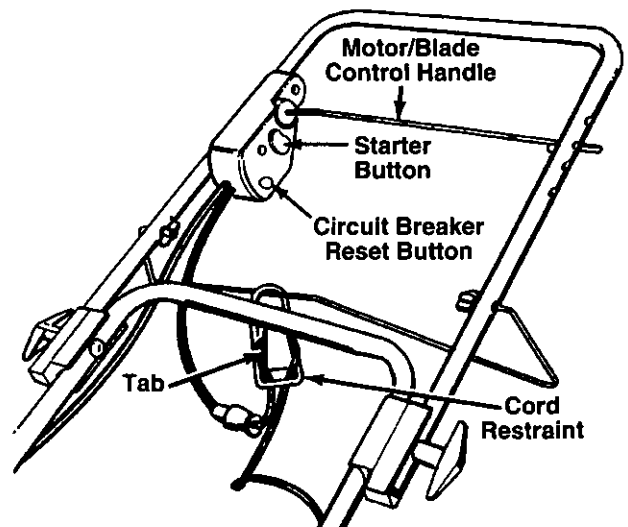

FIGURE 3.
The motor/blade control is located on the upper handle of the mower. See figure 3. The motor/blade control handle engages and disengages the motor and blade. The motor/blade control consists of two parts—a starter button and a motor/blade control handle.
Attach extension cord (not provided with unit) to the cord restraint as follows. Form a small loop in the extension cord. Allow enough excess cord to make the connection to the motor/blade control (approximately 20 inches). Slip the loop through the slot on the bottom of the cord restraint, and up over the tab, to prevent disconnection from the motor/blade control during operation. Keep the cord restraint as close to the motor/blade control as possible. See figure 3.
Connect the plug on the extension cord fully onto the plug on the mower. The mower is equipped with a polarized AC power plug (one blade of the plug is wider than the other), which will fit into the plug on the extension cord only one way. See figure 3, inset. If unable to make a full connection, try reversing the plug on the extension cord. Should the plugs still fail to fit, contact your service dealer for assistance. Do not defeat the safety purpose of the polarized plug.
**IMPORTANT:** Your mower is equipped with a circuit breaker, located on the motor/blade control housing. See figure 3. If the circuit breaker trips, reset as instructed in the Maintenance section.